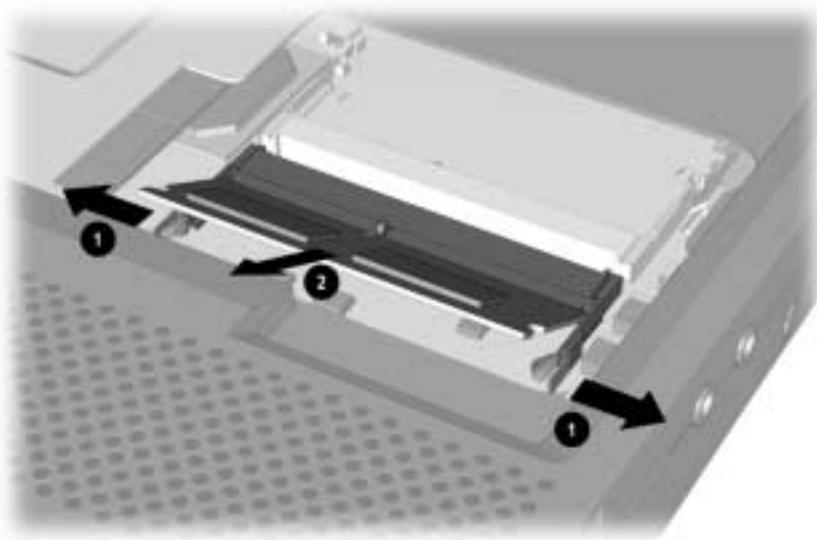

Figure 5-10. Removing a Memory Expansion Board
3. Spread the retaining tabs apart ①. The memory expansion board tilts upward (Figure 5-10).
4. Lift the edge of the memory expansion board and slide it gently out of the memory expansion slot at a 45-degree angle ②.